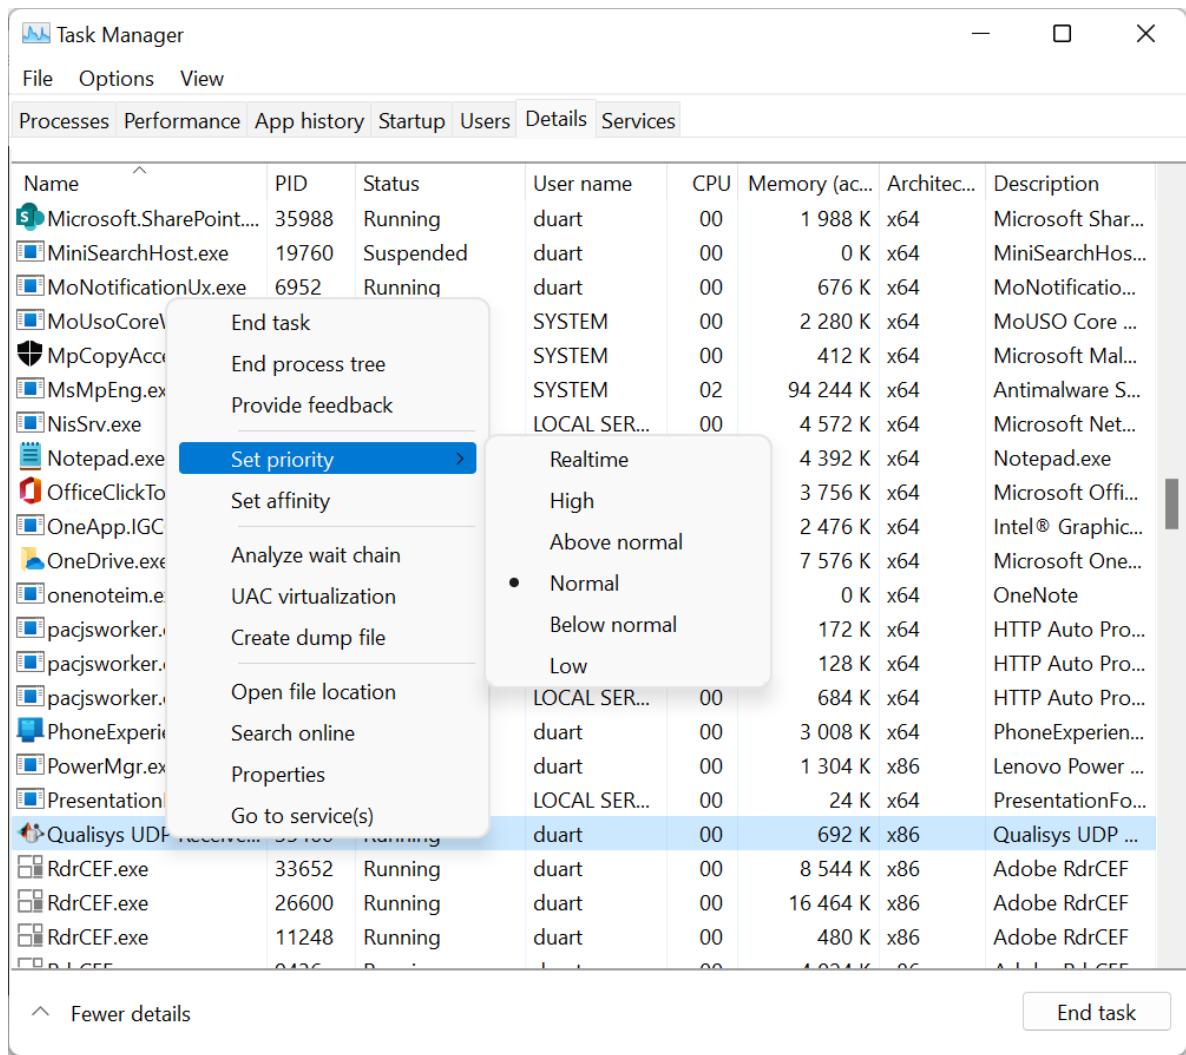

Figure 5.2: Changing the priority of QualysisUDPReceive.exe in the Task Manager.
2. Go to the folder corresponding to Lab 5. Run the program `QualysisUDPReceive.exe` (outside of MATLAB). To know if it is running properly, you should see new lines in the command window appearing continuously. Leave it running in the background during the class. Open the Task Manager, and in separator Details right-click `QualysisUDPReceive.exe` to set its priority to High; see Figure 5.2.